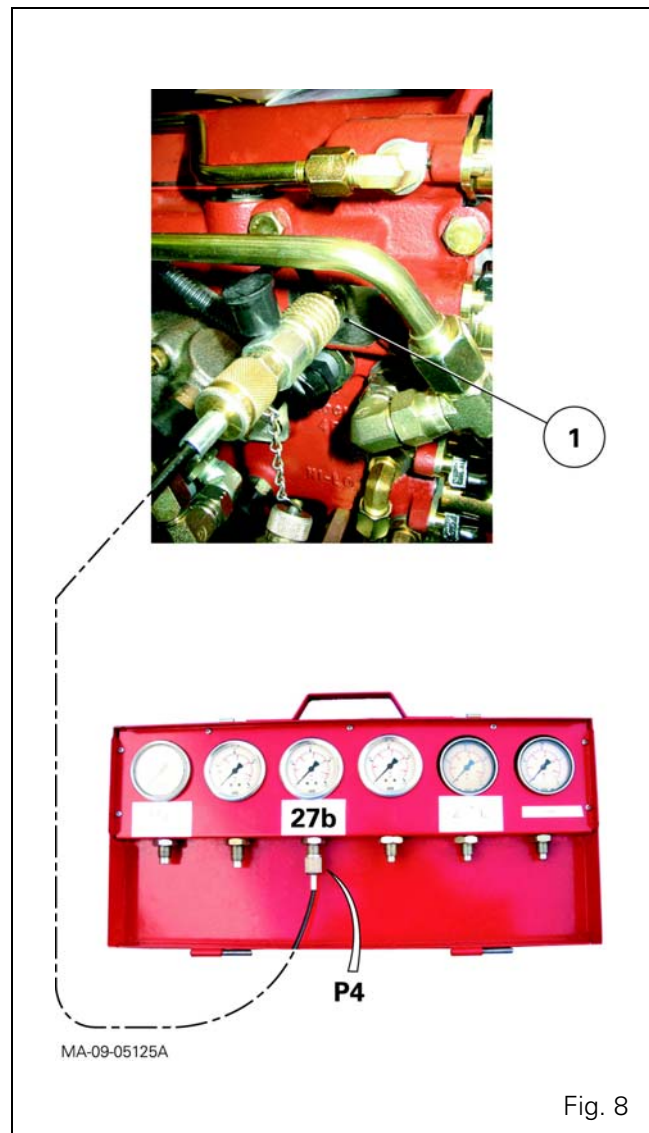

Fig. 8
- Also connect a pressure gauge to the low pressure diagnostics connector (1) screwed to the top of the right-hand hydraulic cover, at the front (Fig. 8).
- Connect a pressure gauge set to approximately 30 bar to the low pressure connector (1) (Fig. 8).